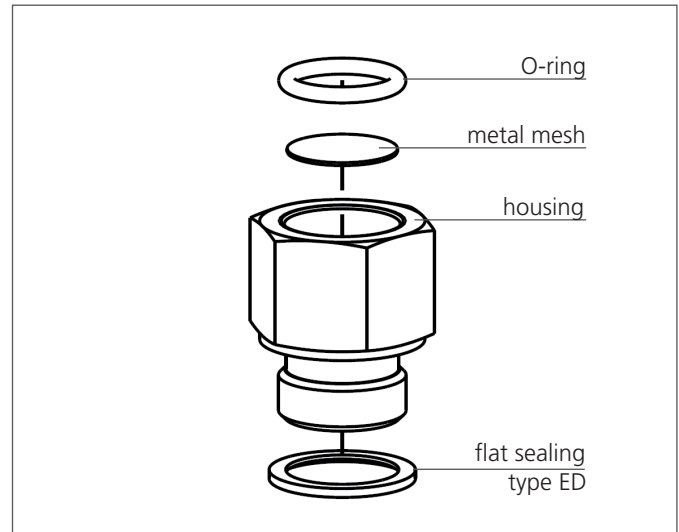

Fig. 11: Components of suction strainer:
- › In case of damage, replace the metal mesh, sealing, and / or O-ring installed inside of the strainer housing - Figure 11. (Order No. - see spare part list).
5. Screw the suction strainer set (3) into the pump inlet port.
6. Screw the straight nipple (2).
7. Screw the elbow fitting (1)